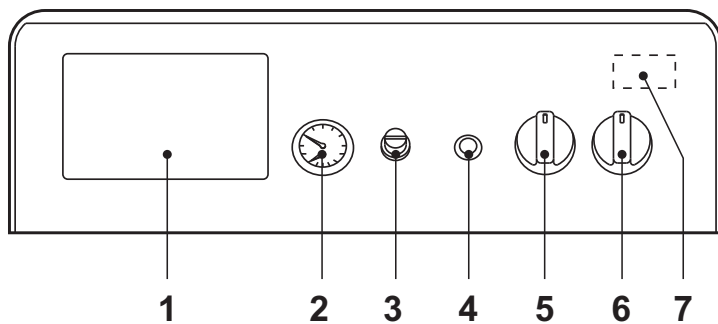
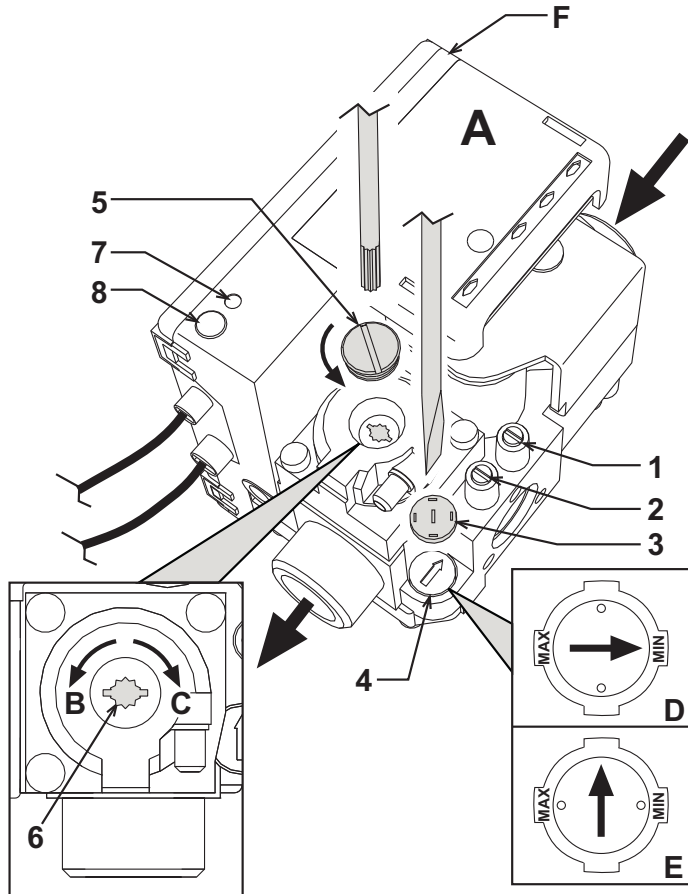

fig. 1 - Control panel
fig. 3 - Pressure adjustment
- Turn the main switch "6" to position 1 (fig. 1).
- If the boiler is equipped with an electronic thermostatic controller fitted in position 1 of fig. 1, the user must also take into account the manufacturer's instructions.
Turn the knob 5 of fig. 1 clockwise to increase the heating water temperature, or anticlockwise to decrease the temperature. The temperature can be varied from a minimum of 30°C to a maximum of 90°C. However, it is advisable not to operate the boiler below 45°C.
Using the room thermostat, set the required room temperature. Controlled by the room thermostat, the boiler lights and brings the system water to the temperature set by boiler control thermostat 5 of fig. 1. The generator turns off when the required temperature in the rooms is reached.
The filling pressure with system cold, read on the boiler water gauge detail 2 of fig. 1, must be approx. 1.0 bar. If, during operation, the system pressure falls (due to the evaporation of gases dissolved in the water) to values below the minimum described above, the User must bring it to the initial value by operating the filling cock. At the end of the operation always close the filling cock.
Connect a manometer to the pressure point **2** (fig. 3) located downstream of the gas valve, and turn the boiler thermostat knob (ref. 5 - fig. 1) to the maximum value.
After removing the protection cap **5** (fig. 3), adjust the gas pressure at the burner by turning the screw **6** to the required value (see technical data table and output variability diagrams given in cap. 5).
2. Remove the small protection cap **3** (fig. 3) from the gas valve. Using a small screw-driver, adjust the ignition "STEP" for the required gas (**G20-G25** position **D** fig. 3 or **G30-G31** position **E** fig. 3); then refit the cap.